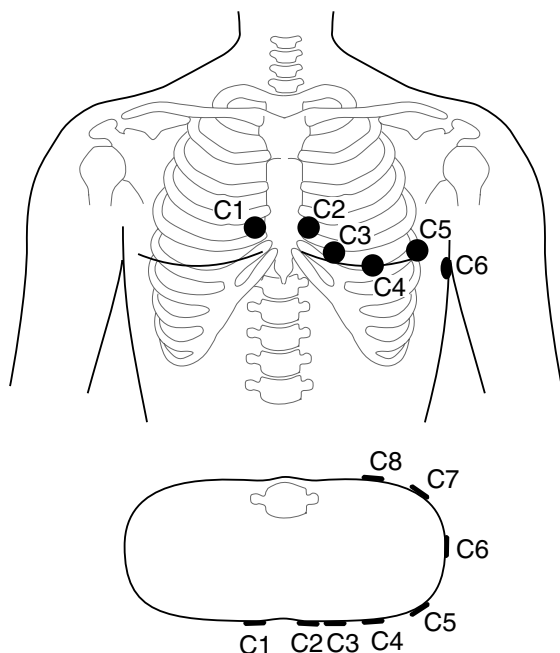

Figure 6-3. Chest electrode application points
- To obtain a recording of all 12 standard leads, attach the 4 limb-lead electrodes and apply suction electrode 217 144 01 to the thorax. This electrode is easy to move from one pick-up point to the next (C1 through C6, Figure 6-3). Use electrode lead 223 404 10 to connect the suction electrode to the patient cable. While recording the chest leads, leave softkey  set to V and simply move the chest electrode to application points C1 through C6 (C8).